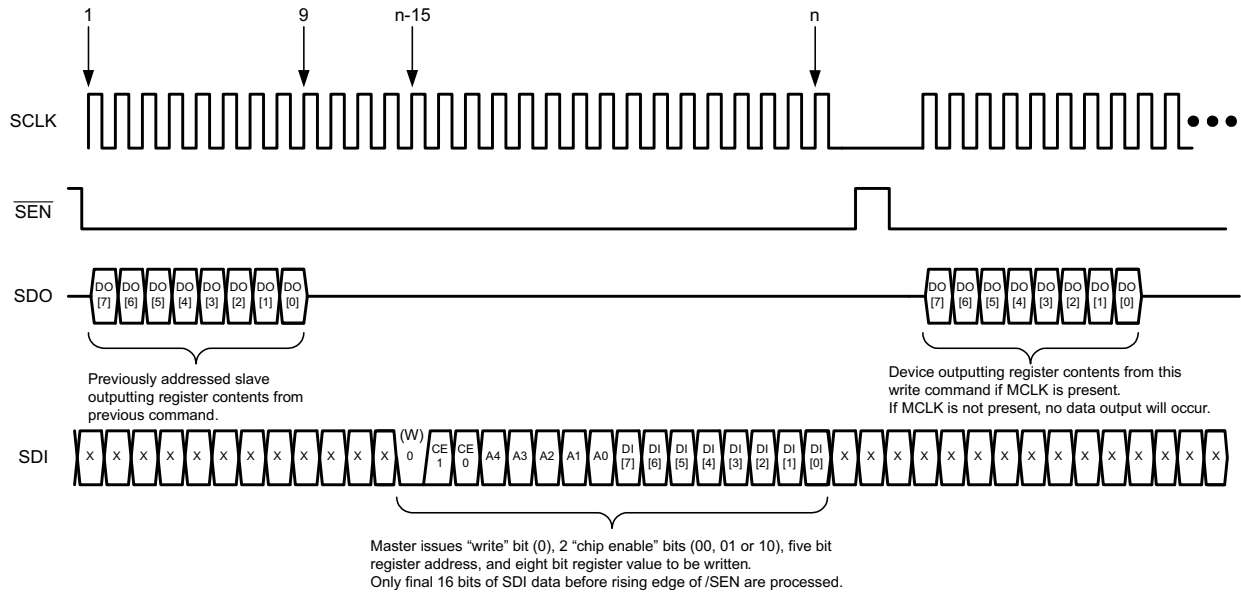
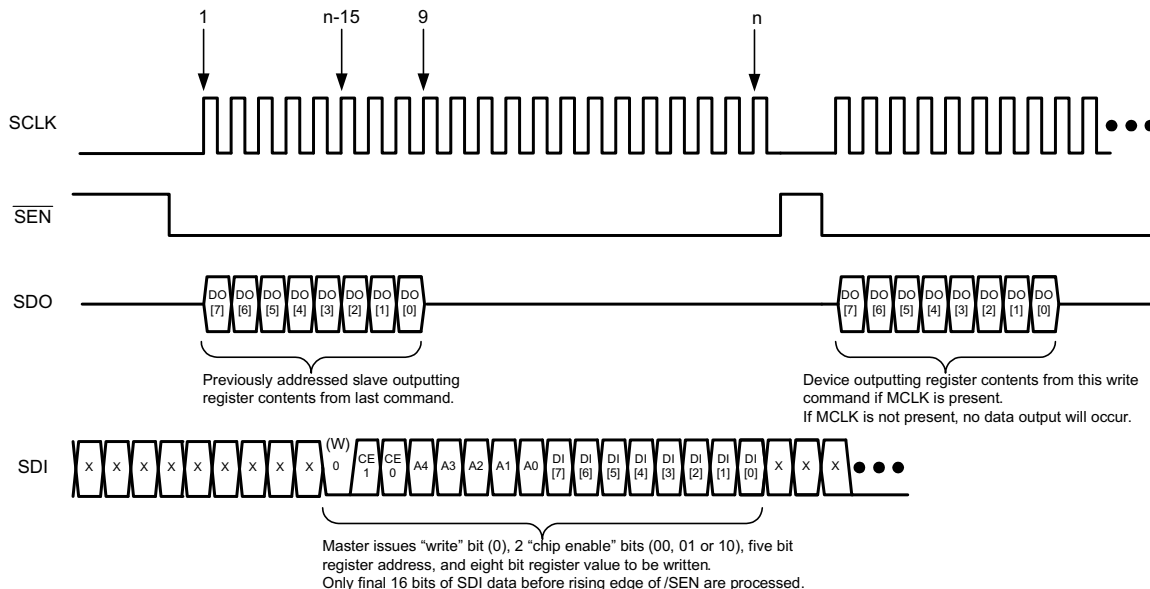
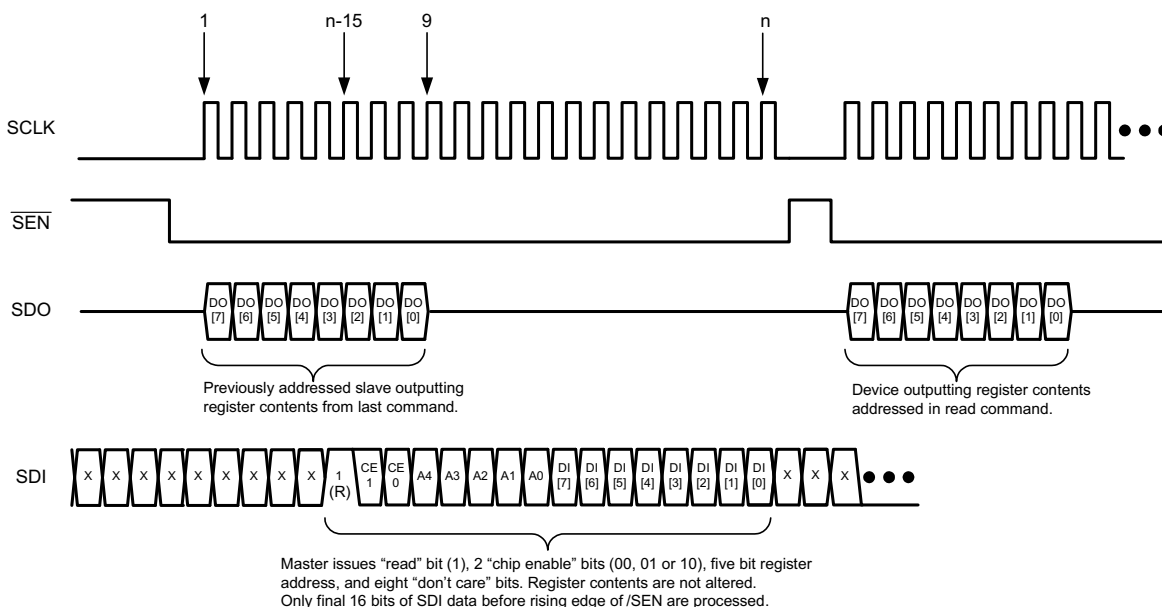

Figure 60. Serial Write - 4 Wire Connection - 25+ Clock Mode
Figure 62. Serial Write - 4 Wire Connection - 16+ Clock Mode
Figure 63. Serial Read - 4 Wire Connection - 16+ Clock Mode
- **Clockless (MCLK stopped) Mode (always enabled if MCLK stopped):** When the input MCLK is stopped, Data Read operation is exactly the same as MCLK present mode. The Data Write operation no longer provides a free readback of the previously written data. See Figure 60 and Figure 63.
Clockless (MCLK stopped) Mode (always enabled if MCLK stopped) - When the input MCLK is stopped, Data Read operation is exactly the same as MCLK present mode. The Data Write operation no longer provides a free readback of the previously written data. See Figure 60 and Figure 62.